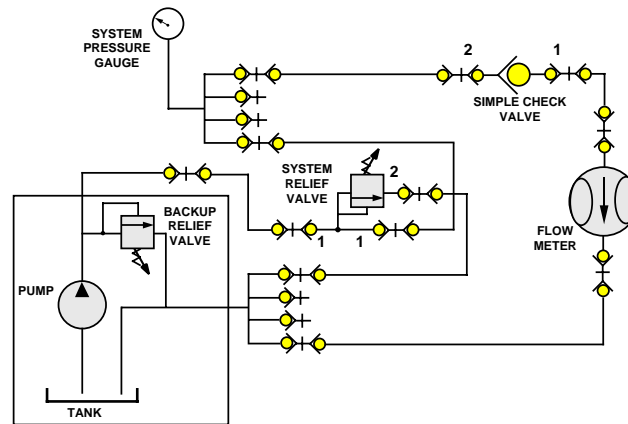

Fig. 3.5.26 Circuit
1. Construct the circuit given in Figure 3.5.26.